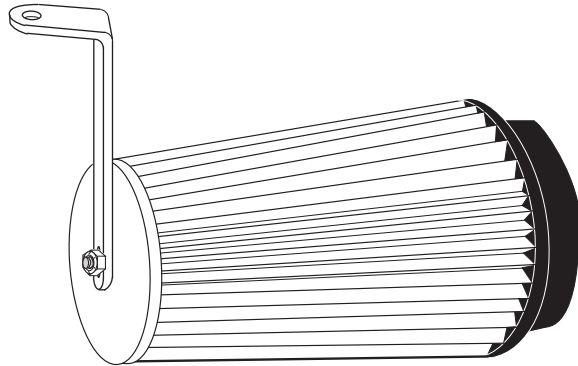

fig. 3
- 7) Install the "L" bracket onto the K&N air filter but do not completely tighten at this time. (see fig. 3)